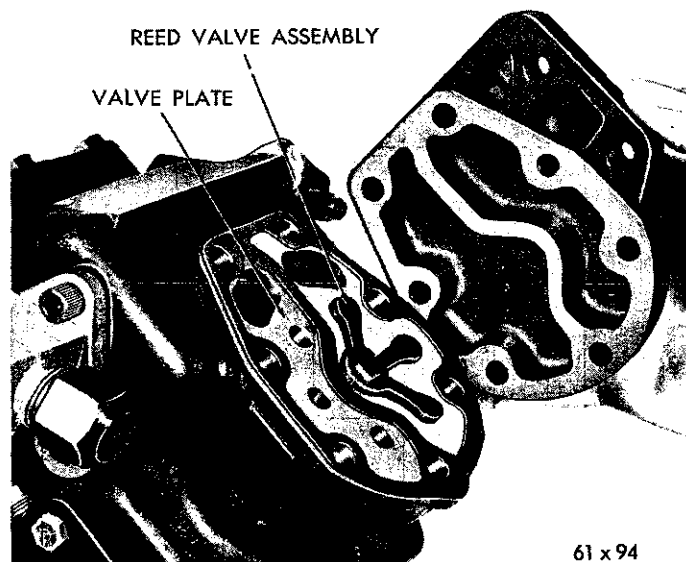

Fig. 38—Valve Plate—Installed Position
- (1) The valve plate and the cylinder head must be assembled with the reed assembly, as shown in Figure 38.